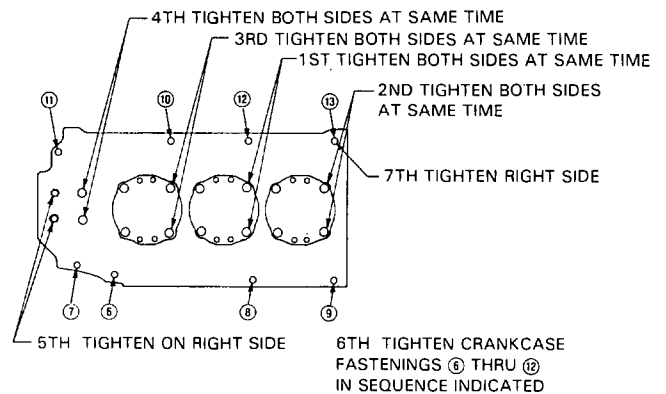

Figure 4. Left Side of Crankcase
d. Six Cylinder Engines (O-540 Type), Wide Cylinder Flange (See Figure 4).